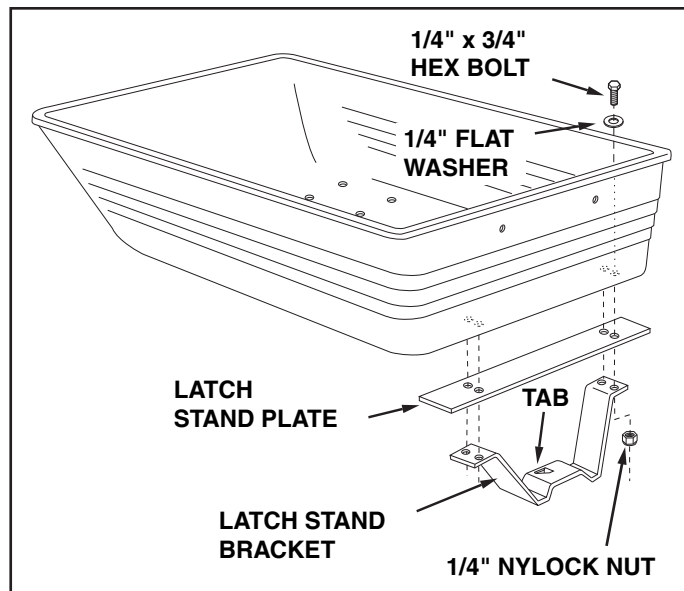

FIGURE 6
9. Assemble the latch stand plate and the latch stand bracket to the bottom of the poly tray using four 1/4" x 3/4" hex bolts, 1/4" flat washers and 1/4" nylock nuts. The aligning tab on the bottom of the latch stand bracket must be towards the rear of the cart. **Tighten.** See figure 6.